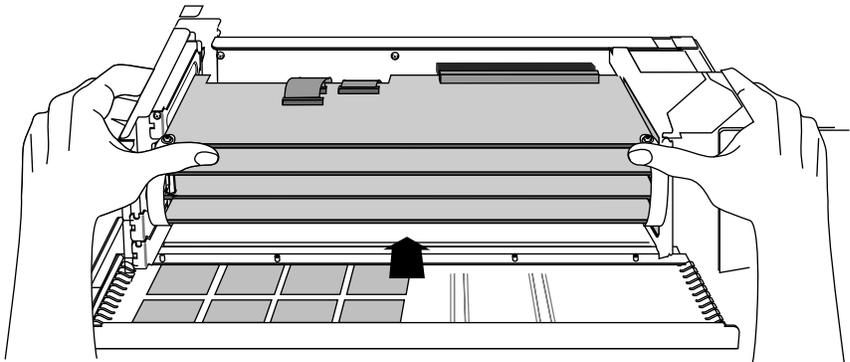

Figure 2-28 Inserting the Board Set into the Chassis
2. Slide the boards into the chassis and push the board connectors into the corresponding midplane connectors (Figure 2-28). Putting pressure on the topmost board of the set helps to seat the boards completely.